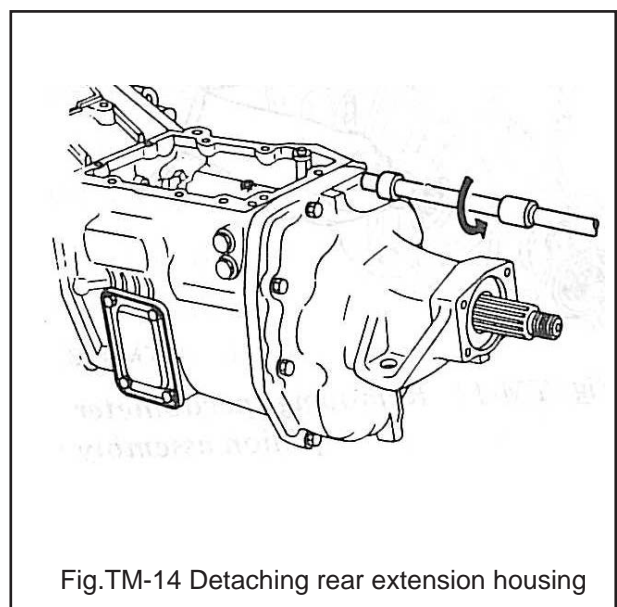

Fig.TM-14 Detaching rear extension housing
8. Removing rear extension housing securing bolts and detach rear extension housing from transmission case. If rear extension housing cannot be removed easily, lightly tap it with a wooden or plastic mallet. See Figure TM-14.